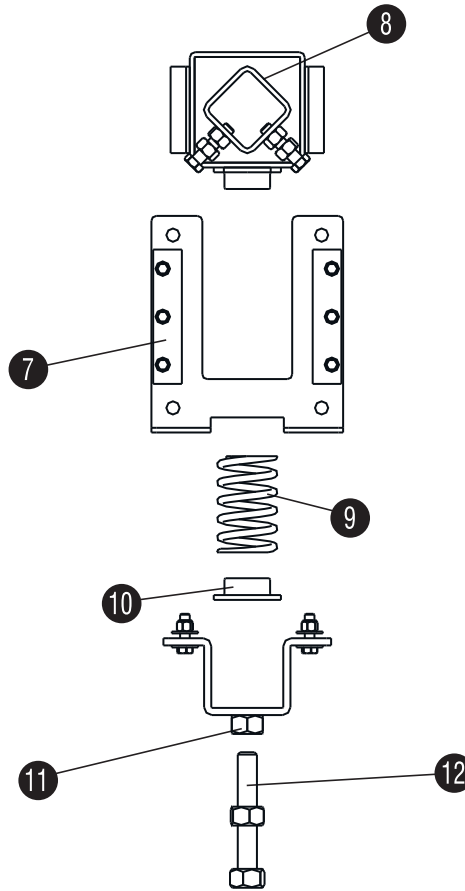

Figure 2. Spring-Shoc Tensioner Parts Diagram
- With the Mounting Brackets attached, now assemble the Spring-Shoc Tensioners as shown in *Figure 2*.